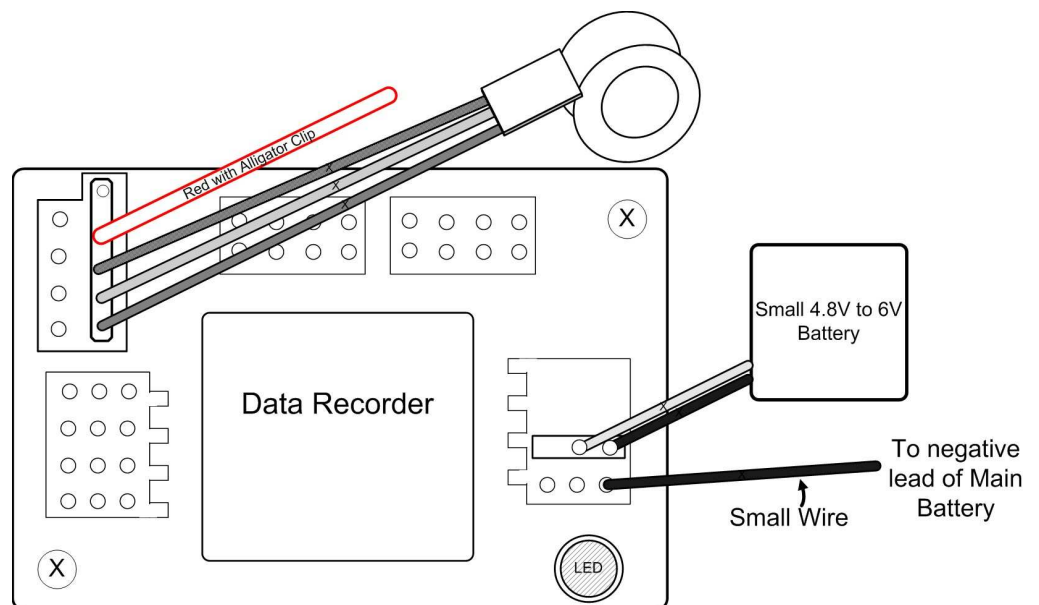

Figure 2
- RECOMMENDED:** Disconnect all connections between your Receiver (including BEC/Throttle output of the ESC) and your Recorder, and power the recorder from a separate small battery. Then, connect a small ground wire between one of the Recorder's servo ground pins, and the negative lead of the battery being measured, as shown in Figure 2. Note that the resulting connections should not bypass the ESC's isolation between the BEC/Throttle ground and the ground of the battery being measured, since the BEC/Throttle ground is NOT connected to the recorder. Note that servo position logging will not be possible in this scenario.
Recorder connected, AND you will need to connect the small wire between the between one of the Recorder's servo ground pins, and the negative lead of the battery being measured, as shown in Figure 2. **CAUTION! This configuration causes the internal ESC isolation to be bypassed. While the vast majority of the customers who have done this with our equipment have not reported any problems, we have had one report of two different high powered ESC's which may have been damaged by performing this connection. Therefore, we strongly recommend contacting the ESC manufacturer or consulting the ESC manual to ensure that connecting the ground of the ESC's throttle output and the main battery ground together will not cause a problem with that particular ESC, before proceeding. Bypassing the ESC isolation is done at your own risk!**